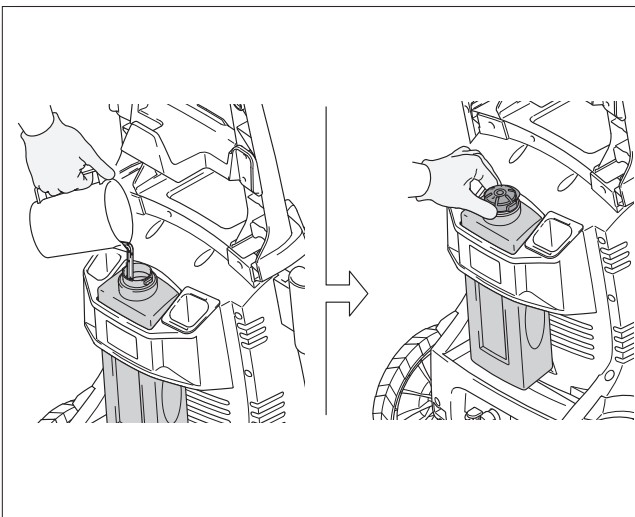

Fig. 12
- When using the detergent, fill it with a properly formulated detergent or cleaner with water ratio according to instructions on the container (**Fig. 12**). The detergent tank comes with a straw which is fitted into the screw-on top. If you don't see the straw, look inside the tank and attach it to the screw-on top, close detergent tank when done filling.